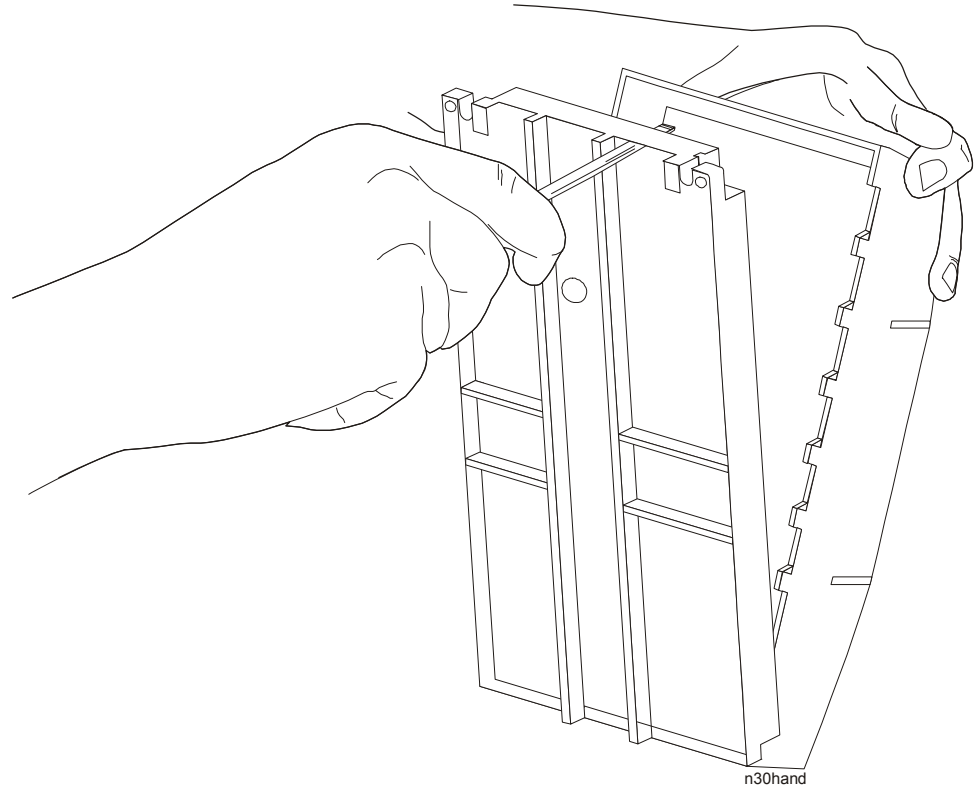

Figure 15: Pry Off the Cover
3. Hold onto the N30 base and insert a flat-head screwdriver into each of the four slots at either end of the controller in turn. Release the cover tab by twisting the screwdriver blade, and carefully prying the cover off the base (Figure 15).